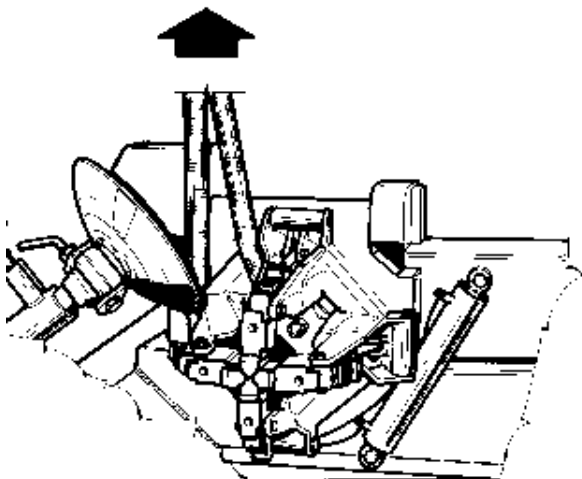

Fig.12
- A.** Before raising the machine, ensure that the chuck is completely closed, that the chuck arm is lowered and the toolholder carriage is in all the way in Fig.12.
Lift the machine only with the two lifting lugs with a belt or rope of appropriate length and strength (300 cm - 10') (Fig.12).